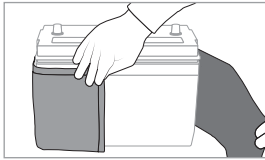

Figure 2. Wrapping battery.
3. Wrap battery as shown in Fig. 2. **NOTICE!** Maximum allowable overlap is 10 inches (25 cm). Wrap must not obstruct cord.